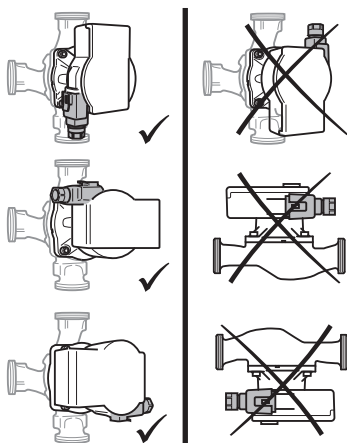

Fig. 2: Installation positions
- Select the installation site according to the permitted installation position (Fig. 2).
- Observe the pump's permitted installation position (Fig. 2), rotate the motor head (2 + 6) if necessary.
- Observe the permitted installation position (Fig. 2) and the direction of flow arrow on the pump housing (1).
- Tighten the 4 housing screws (5).